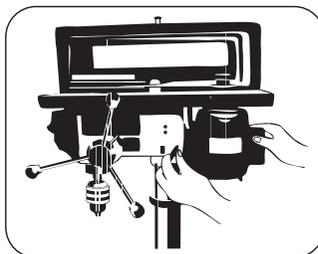

FIGURE 8.14a
- When the desired tension is reached, tighten the belt tensioner (Figure 8.14a).